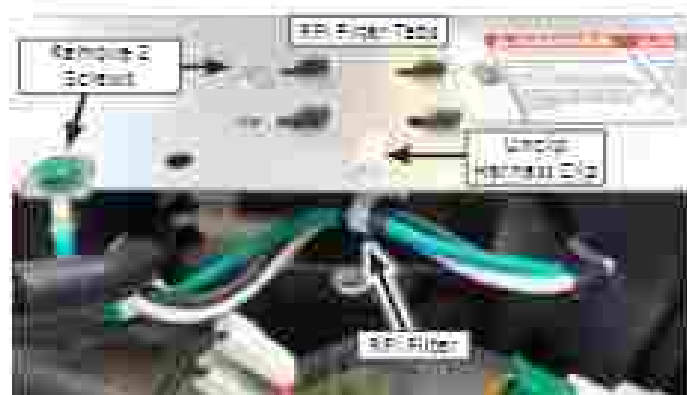

Figure 1
5. Using either a 1/4" hex-head, or T20 Torx driver, remove the "green" ground screw and the one screw securing the RFI filter to the rear bracket. See Figure 1.
6. Unclip the harness clip and slide RFI Filter to disengage tabs from top of rear bracket. Remove RFI filter (see Figure 1).
7. With filter removed, disconnect the two (2) AC input terminals and the one AC output connection. Remove RFI Filter from washer.